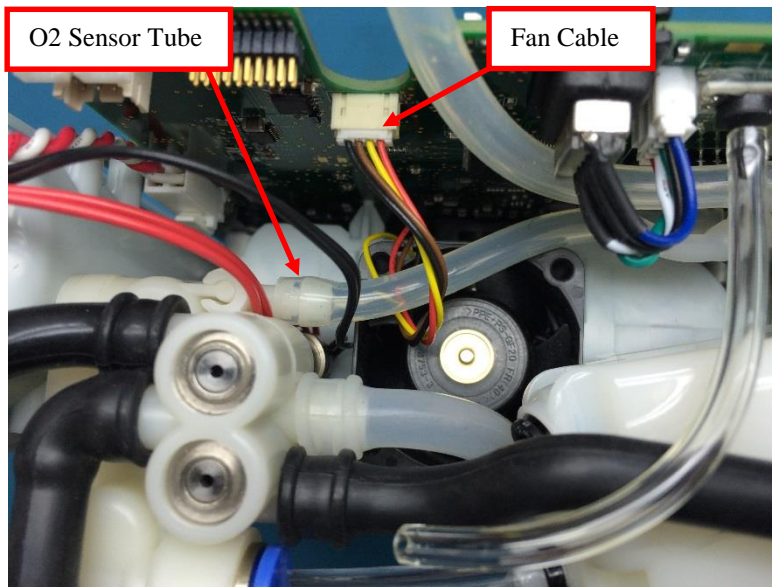

Figure 10: Disconnect fan cable and O2 Sensor Tube
5. Carefully pull the motherboard about a half inch away from the device, making sure not to bend it in any way. With the cables and tubing exposed, gently unplug the fan cable from the motherboard, then detach the O2 Sensor Tube from the Product Manifold by pulling the tube off of the barb (Figure 10).
1. To re-install the motherboard, make sure the chassis pegs are aligned with the holes in the motherboard. Then reattach the accumulator tubing and the oxygen sensor tubing (Figure 10). Gently pull on each tube/cable to ensure a complete connection.